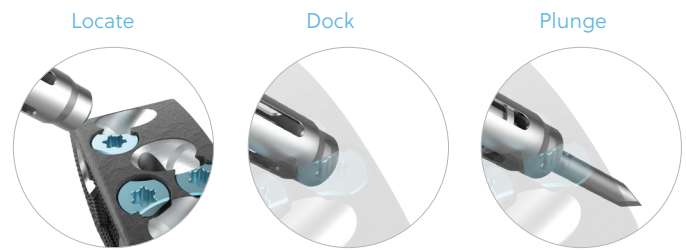

Figure 18
- Using the self-guided angled awl, self-guided straight awl, and self-guided straight drill or the poly angle awl, poly angle drill, and the single barrel guide, locate the screw pocket within the cage and dock. Plunge/drill to create the pilot hole. Repeat for all pilot holes (Figure 18).